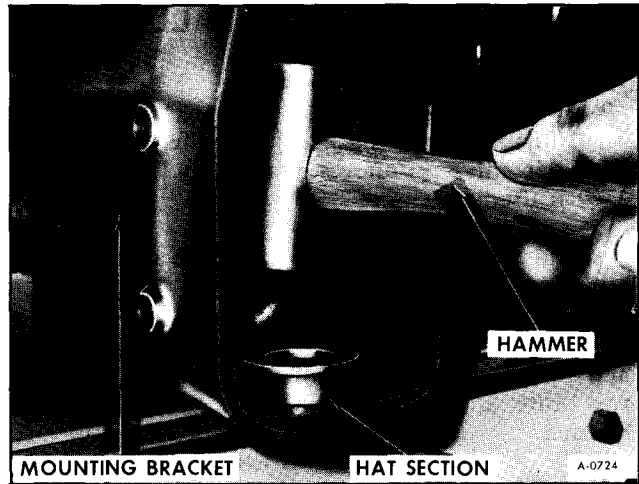

Figure 60—Repositioning Hat Section
1. With the aid of hammer as shown in Figure 60, tap two back hat section spacers in mounting bracket to provide more room for control arms in bracket.